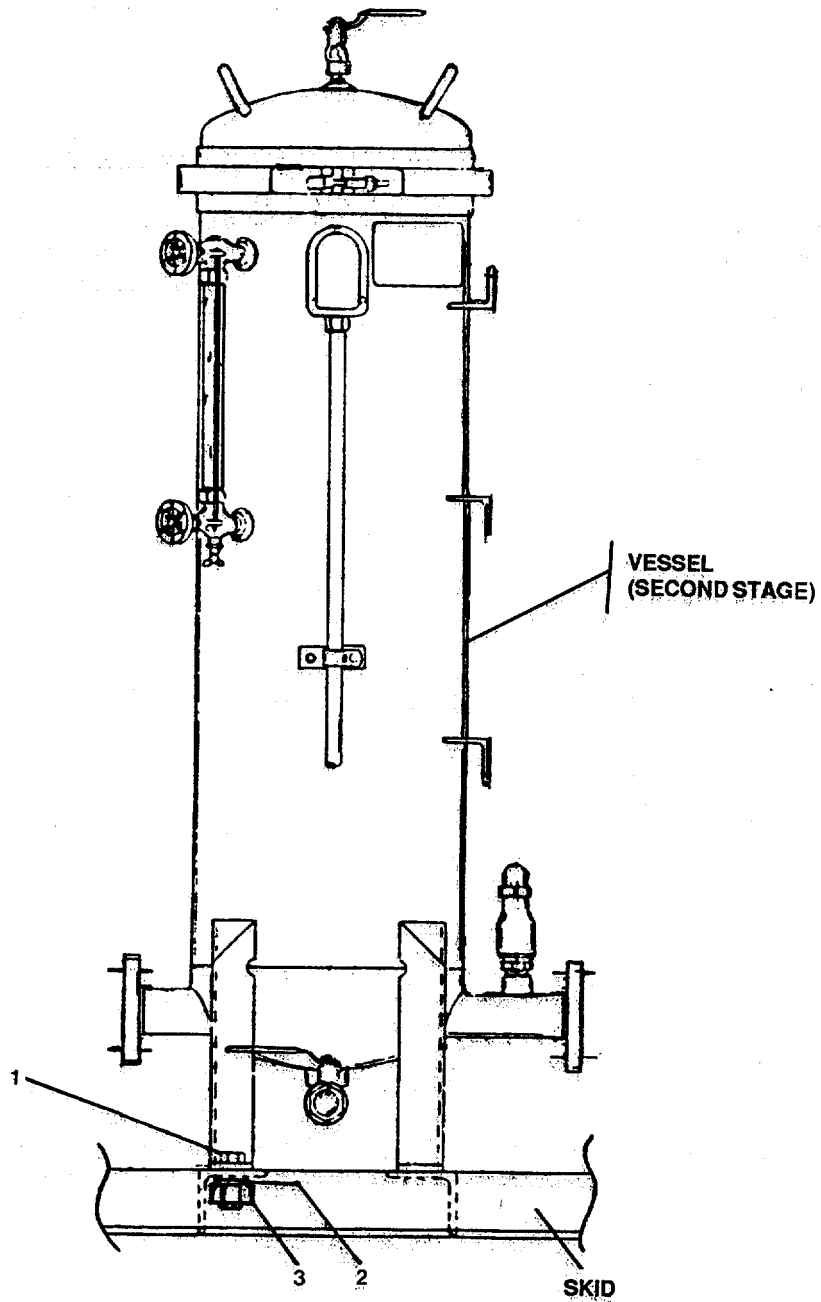

FIGURE 3-26. Vessel Subassembly (Second Stage).
- f. Position and connect support (10) by screwing support on pipe nipple (11).
- g. Lower coalescer element (9) on support (10) and into vessel.
- h. Install cover (5), two preformed packings (8), packing retainer (6), and self-locking wing nut (7).
- i. Connect pipe elbow (19).
- j. Position metal tube (12) and connect coupler (13).
- k. Attach preformed packing (22) and packing retainer (3) to cover.
- l. Connect pipe nipple (1), pipe elbow (4), and ball valve (2) to vessel (20).
- m. Connect pipe nipple (1), pipe elbow (4), and ball valve (2) to cover.
**3-29. Replace Vessel Subassembly (Second Stage). (Figure 3-26)**